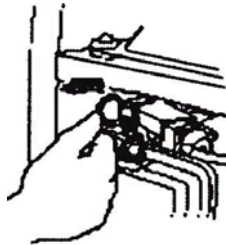

Fig. 26
4.8 Once the engine is started, set the choke lever to ON position. (Figure 26)